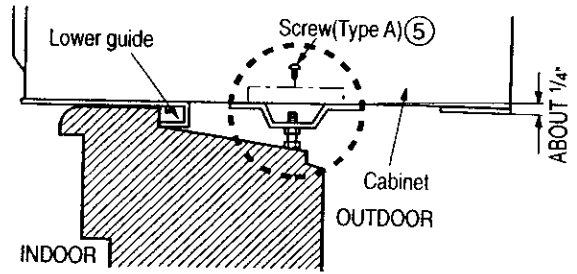

Figure 88
8. Select the position that will place the sill supports near the outer most point on sill (See Figure 88). Attach the sill supports to the cabinet track hole in relation to the selected position using TYPE A screw ⑤.